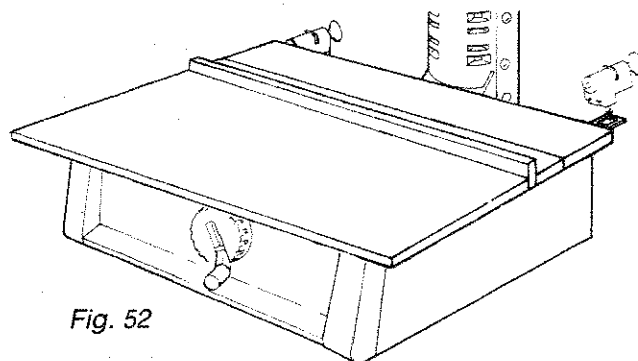

Fig. 52
3. Tilt clamp bracket forward and snap in place in rectangular shaped hole at back of table support. (Figure 52)